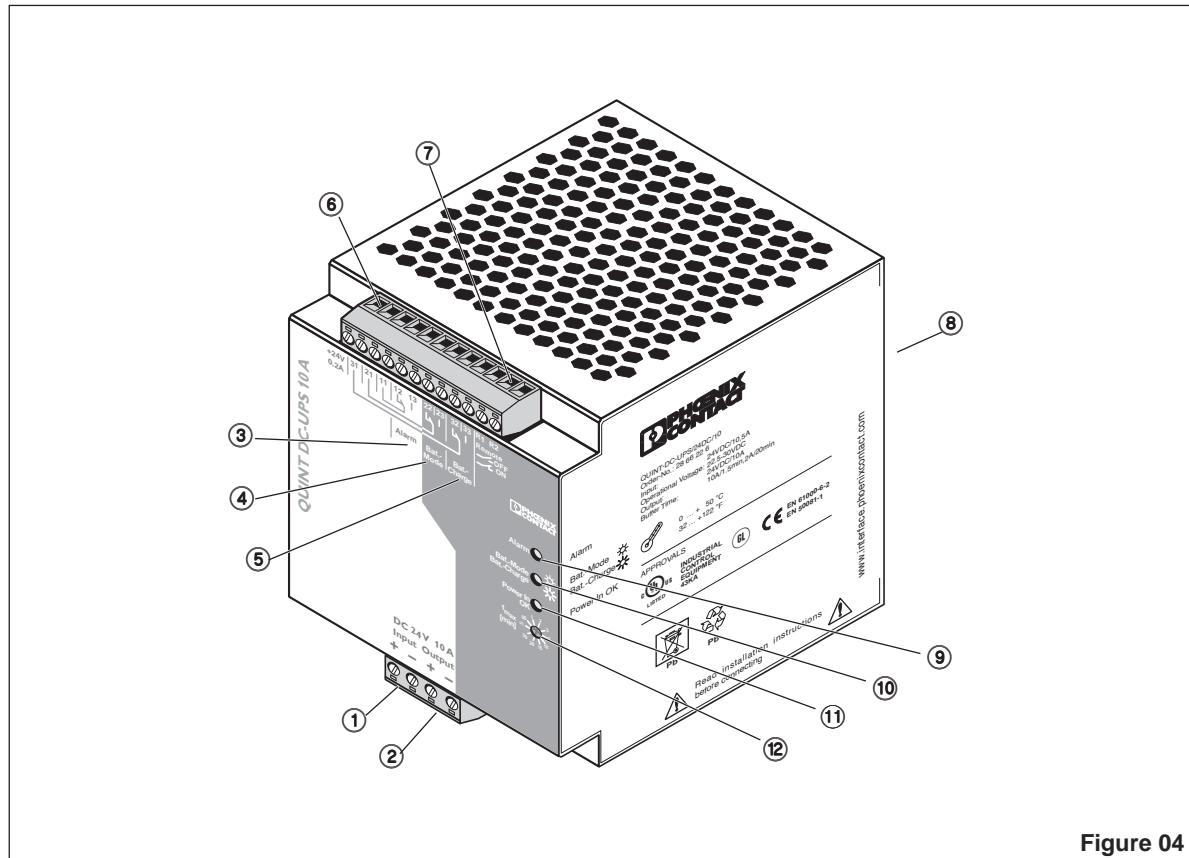
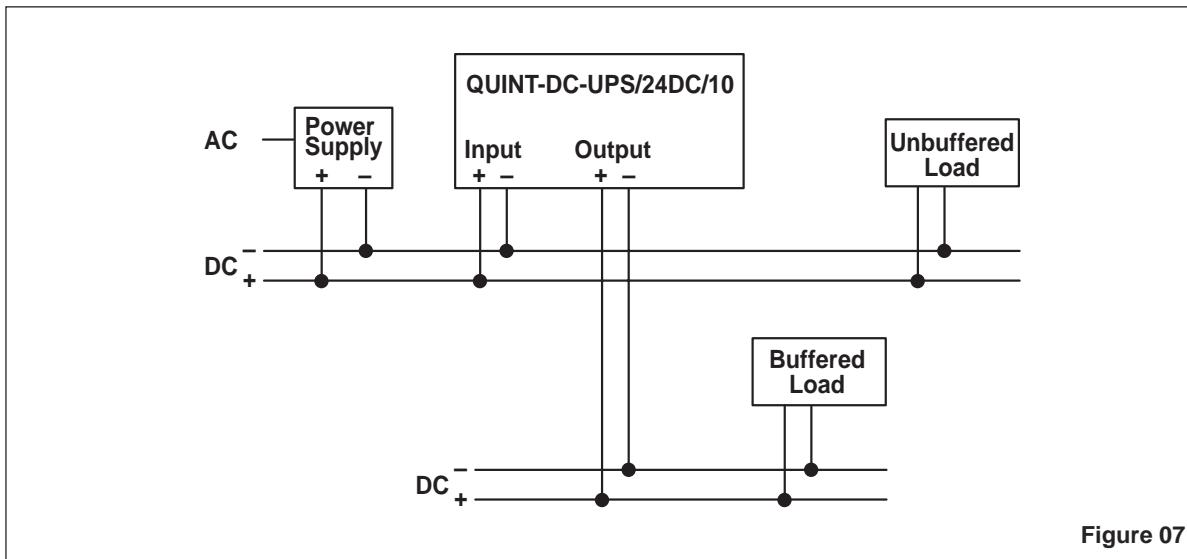
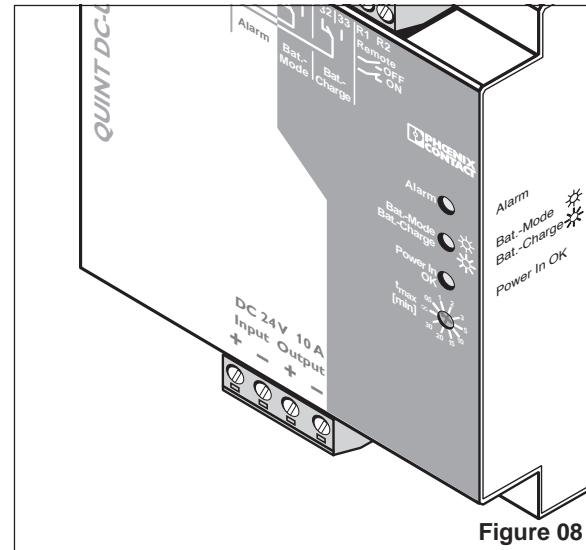

Figure 04
Figure 07
Figure 08
5.4. Input (①, Figure 04, Figure 08)
5.5. Output (② Figure 04, Figure 07)
All devices that must be supplied without interruption in the event of a supply voltage failure ("Buffered Load"), are connected to the "Output +" and "Output -" terminal blocks of the DC output (Fig. 07). It is recommended that all other loads, which do not require buffering ("Unbuffered Load"), are connected to the 24 V DC output of the power supply.